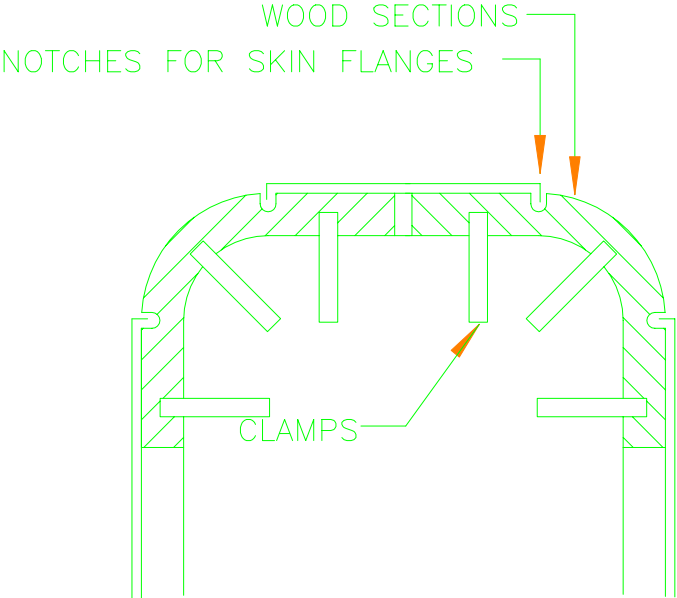

FIGURE 5
23) Clamp two wood corner blocks to the top flat sides of bulkheads G, F, and E. Figure 5.